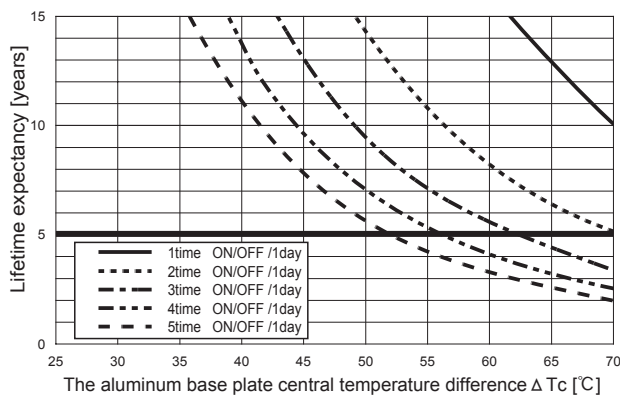

Fig.6.1 Lifetime expectancy against rise/fall temperature difference
- Product lifetime expectancy depends on the aluminum base plate central temperature difference ( $\Delta T_c$ ) and number of cycling in a day is shown in Fig.6.1.